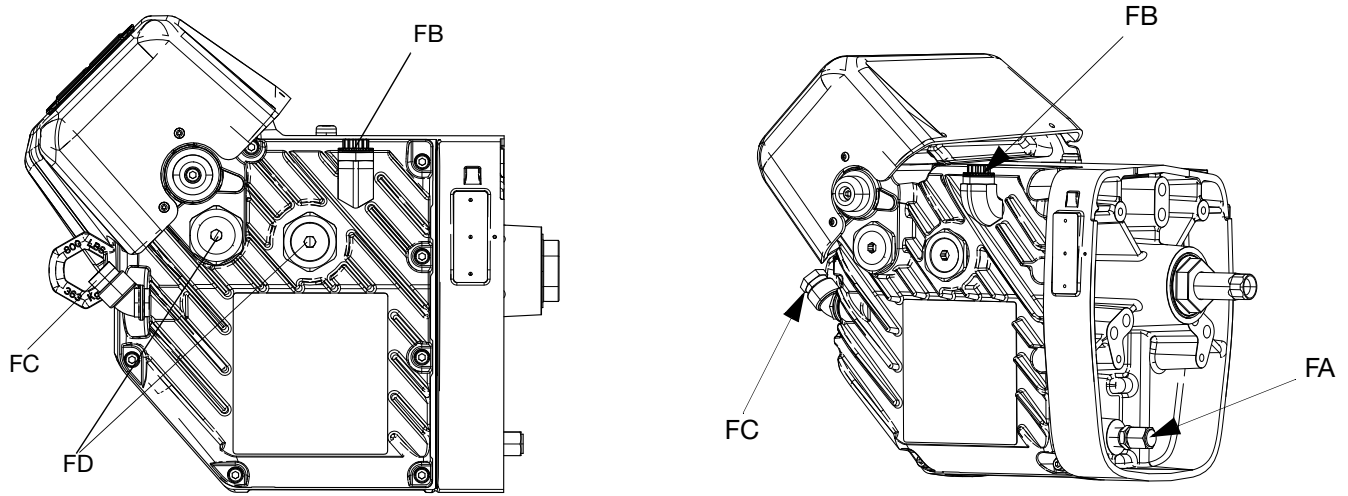

FIG. 12: Sight Glass and Oil Fill Cap
Check the oil level in sight glass (FC). (See FIG. 12.) The oil level should be near the halfway point of the sight glass when the sprayer is not running. If oil is low, open fill cap (FB) and add Graco Part No. 16W645 ISO 220 silicone-free synthetic EP gear oil. See FIG. 12.
2. Place a minimum 2 quart (1.9 liter) container under the oil drain port. Remove the oil drain plug (FA). Allow all oil to drain from the driver.
3. Reinstall the oil drain plug (FA). Torque to 18-23 ft-lb (25-30 N•m).
4. Open the fill cap (FB) and add Graco Part 16W645 ISO 220 silicone-free synthetic EP gear oil. Check the oil level in the sight glass (FC). (See FIG. 12.) Fill until the oil level is near the halfway point of the sight glass. The oil capacity is approximately 2.0 - 2.2 quarts (1.9 - 2.1 liters). **Do not overfill.**
See FIG. 12. The bearing pre-loads (FD) are factory set and are not user adjustable. Do not adjust the bearing pre-loads.